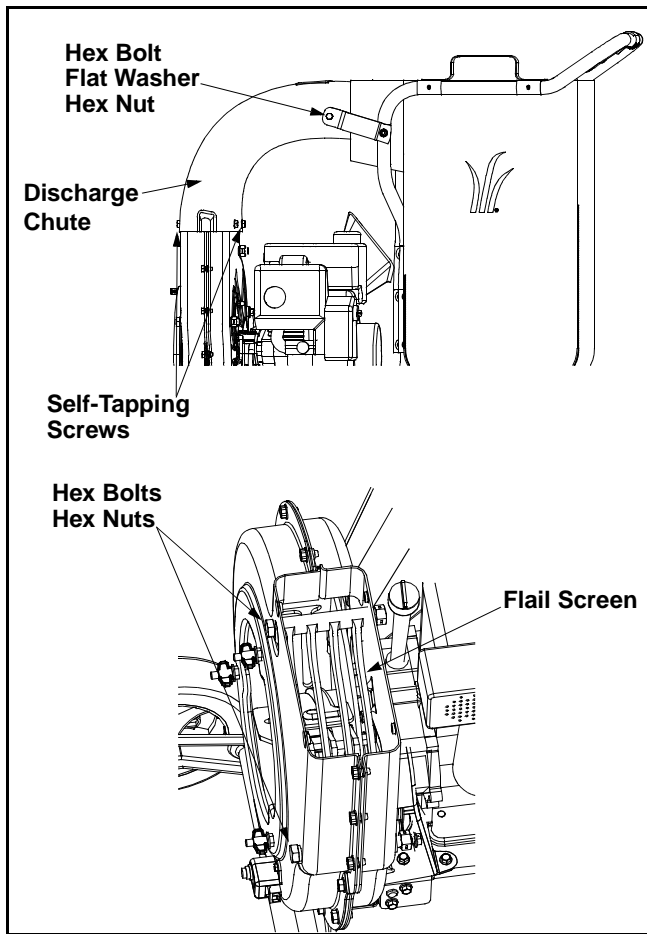

Figure 10
- Remove the four self-tapping screws from the bottom of the discharge chute, and the hex bolt, flat washer and hex nut from the top. Remove the discharge chute assembly. See Figure 10.
- Remove the two hex bolts and hex nuts which extend through the impeller housing. Lift the flail screen from the inside the housing. See Figure 10.
- Remove the two hex bolts and hex lock nuts which extend through the housing. Lift the flail screen out of the housing. Refer to Figure 10.